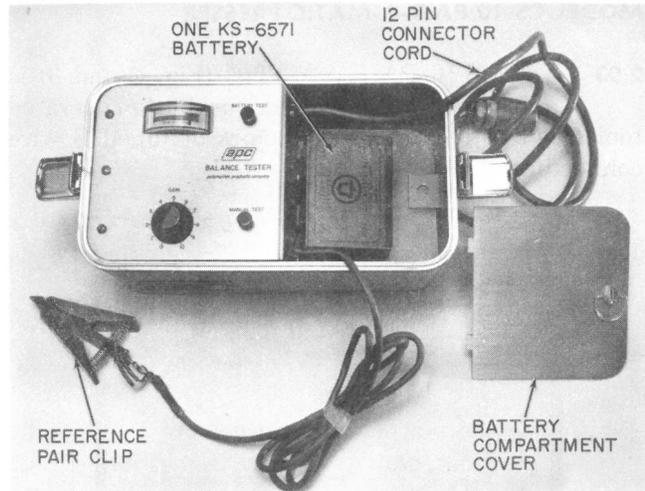

Fig. 4—BT-10 Balance Tester
2.09 The APC balance tester, Model BT-10 (Fig. 4) is a solid state unit which contains the electronics to perform the actual balance test. This instrument is interconnected with the CS-10 pair-a-matic by means of a multilead electrical cable and connector.